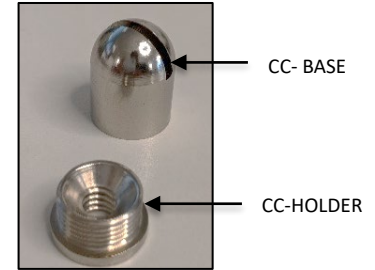

FIG. 8 - CEILING COUPLER ASSEMBLY
2. Dis-assemble the CEILING COUPLER into two components CC-BASE and CC-HOLDER as shown in FIG. 8.